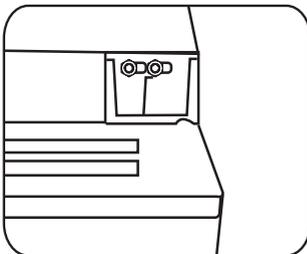

Fig 4.3.3
- 2)Use a hexagonal screwdriver to remove the two screws connecting the door, as shown in the figure 4.3.3(be cautious not to lose the metal anti-slip washers in between).